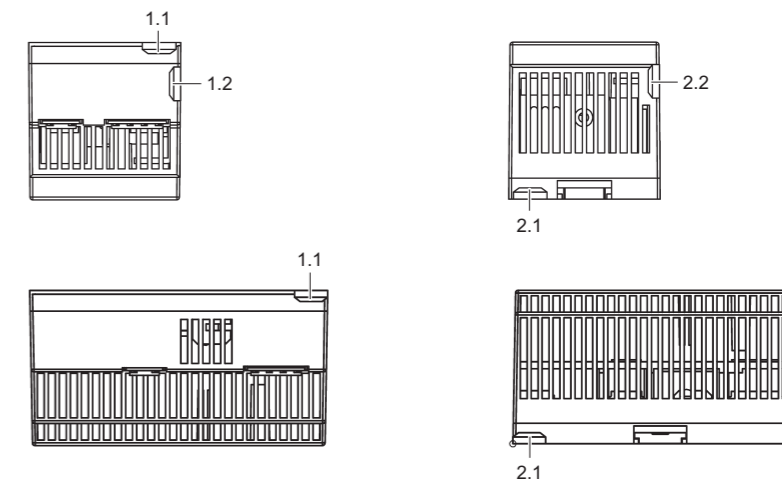

Figure 3: Snap-fit openings for fastening clips – top/bottom view
- Fit one fastening clip into each corresponding top and bottom snap-fit opening on the housing (see figure 3).